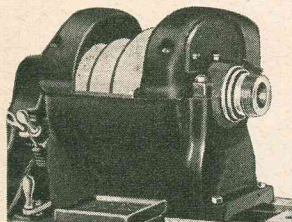

FIG. 7
2. **Headstock.** The headstock which is secured to the bed, houses the driving mechanism of the lathe—3-step cone, the back gears and the spindle. The spindle which is hollow rotates the work. (Fig. 7)